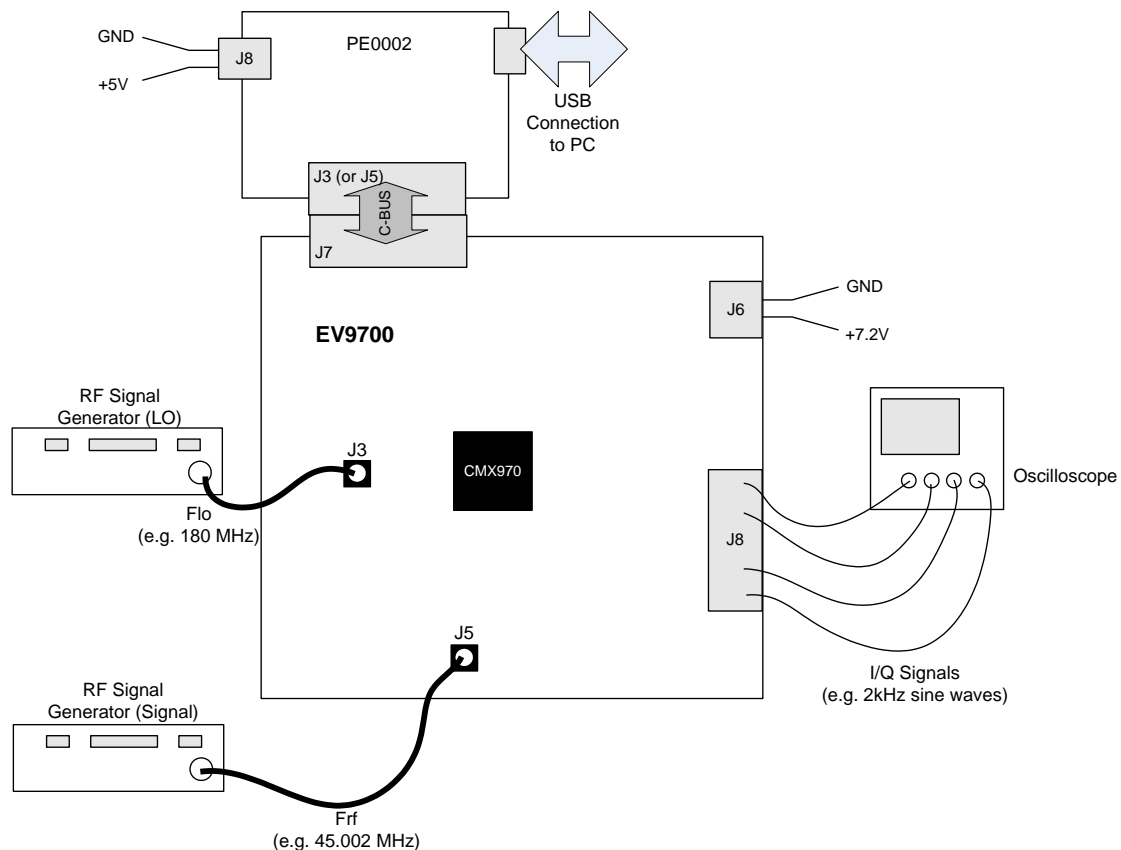

Figure 2 Typical Connections for EV9700
| Figure 2 Typical Connections for EV9700..... | 7 |
An example of typical connections to the EV9700 is shown in Figure 2. Perform the following steps in sequence:
1. Connect test leads as shown in Figure 2, except the power to J6.
2. Connect a controller to C-BUS interface J7 (PE0002 can be used – see Figure 2. Note: J3 or J5 can be used on PE0002, but ensure that the correct C-BUS port is selected when programming data).